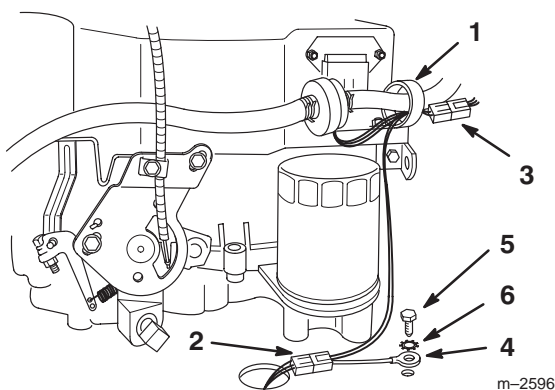

Figure 6
1. Route wires around J-clip on engine, and plug in clutch and engine in-line wire connectors (Fig. 6).
2. Secure ground wire to one of three holes in frame, at rear of engine, with self-tapping screw and star washer (Fig. 6).
3. Secure wire harness and throttle to upper handle with cable tie (Fig. 6)